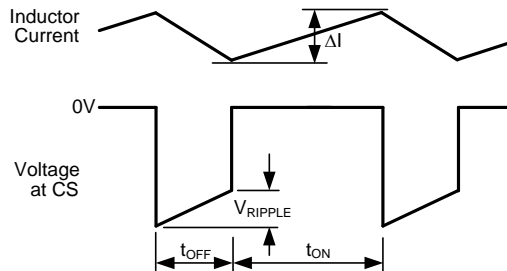

**Figure 15. Normal and Current Limit Operation**
Figure 15 illustrates the inductor current waveform during normal operation and in current limit. During the first normal operation, the load current is  $I_{O1}$ , the average of the inductor current waveform. As the load resistance is reduced, the inductor current increases until the lower peak of the inductor ripple current exceeds the threshold. During the current limited portion of Figure 15, each on-time is reduced by approximately 40%, resulting in lower ripple amplitude for the inductor current. During this time the LM25011 is in a constant-current mode with an average load current equal to the current limit threshold plus half the ripple amplitude ( $I_{OCL}$ ), and the output voltage is below the normal regulated value. Normal operation resumes when the load current is reduced (to  $I_{O2}$ ), allowing  $V_{OUT}$  and the on-time to return to their normal values. Note that in the second period of normal operation, even though the peak current of the inductor exceeds the current limit threshold during part of each cycle, the circuit is not in current limit because the inductor current falls below the current limit threshold during each off-time. The peak current allowed through the buck switch is 3.5 A and the maximum allowed average current is 2.0 A.
**$R_S$ :** The minimum current limit threshold is calculated at maximum load current using the minimum ripple current calculated above. The current limit threshold is the lower peak of the inductor current waveform when in current limit (see Figure 15).